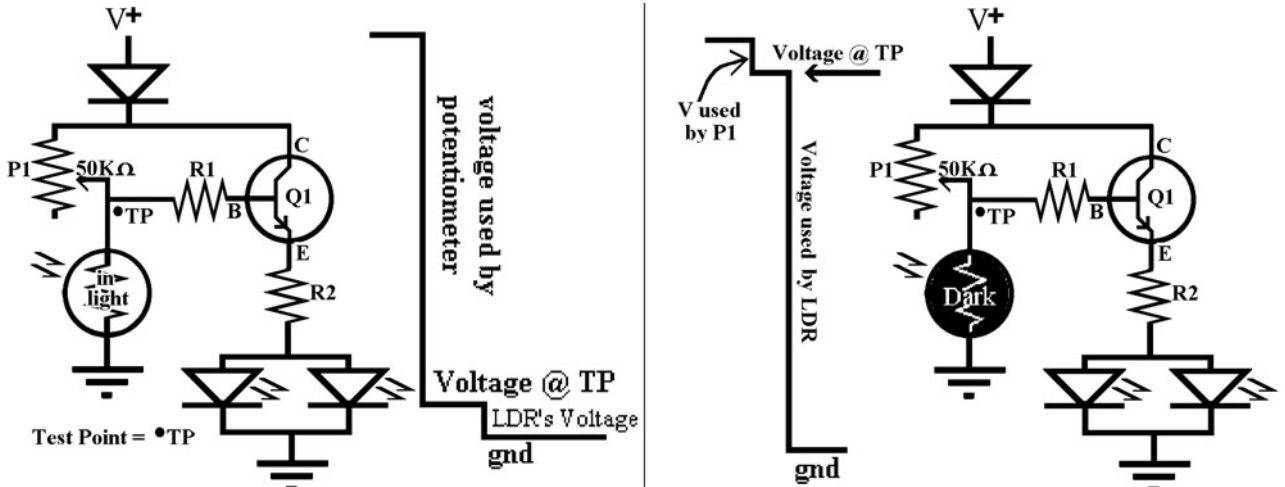

Figure L12-4
2. Now set your circuit under a fairly good light. Measure and record the voltage at the test point shown in Figure L12-4. _____ V